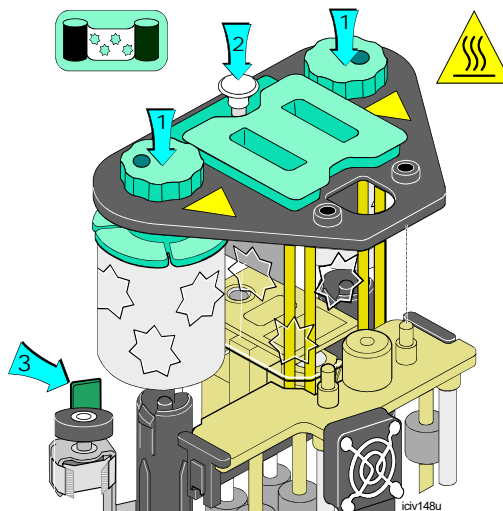

Figure 4-13: Replace the topcoat cartridge
- 3 Lower the topcoat cartridge into the printer (step 1 in Figure 4-13).
- 5 Press the lock to secure the topcoat cartridge in the printer (step 2 in Figure 4-13).
- 6 Move the supply tracker toward the full supply roll until it rests on the supply roll (step 3 in Figure 4-13).